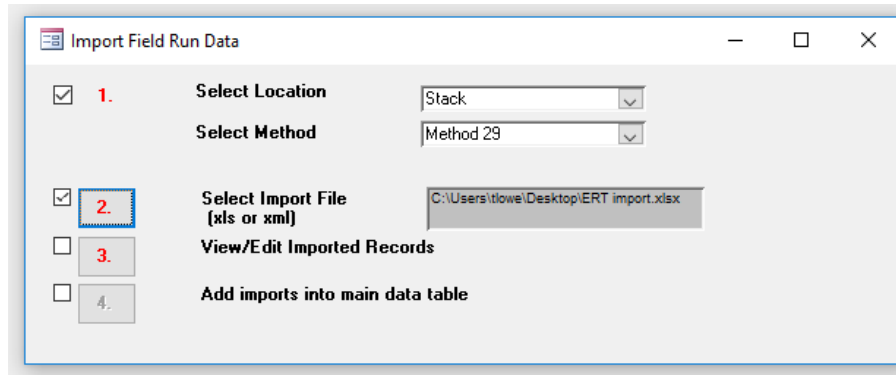

Figure 36- Import Field Run Data Window
- **Step 1:** Select the *location* and the *method* from the drop-down lists, as in Figure 36. A checkmark will automatically appear in the box to the left of the red number 1 after the selection.
- **Step 2:** Click the # 2 and select the spreadsheet in the browse window, then click “OK” or “Open” to select the spreadsheet. The file path will appear beside step 2 “*Select Spreadsheet File*”, as shown in Figure 36.